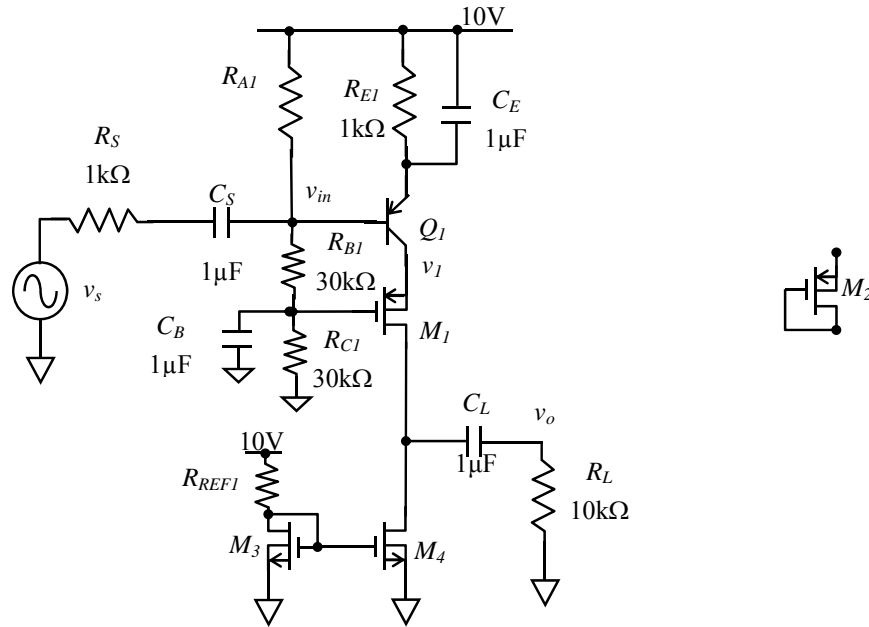

Fig. Q1
In the two-stage amplifier circuit shown in Fig. Q1, assume that the pnp BJT, the NMOS transistors and the PMOS transistors have the following device parameters:
- (f) Diode connected transistor M_2 shown in the right of Fig. Q1 can be used to replace R_{E1} .